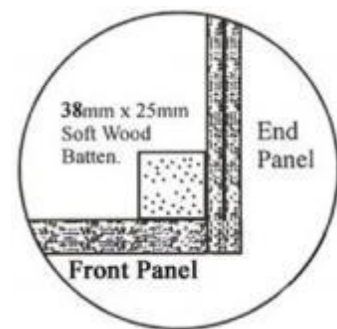

Fig. 5
- Position a batten vertically on the rear edge of the front panel where it will meet the end panel. The batten should be inset 16mm from the panel end, and secured using 35mm wood screws. Fit a softwood batten to the floor and wall as described above, and secure the end panel. (Fig.5)